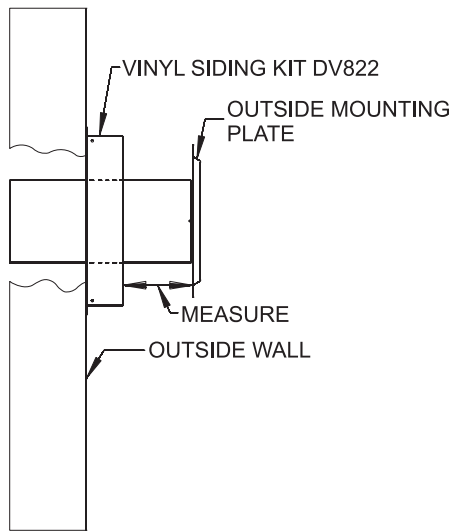

Figure 64
6. With the vinyl siding kit installed to wall (if necessary), insert the 6-5/8 inch diameter tube with outside mounting plate attached through hole in wall. Connect to collar on fireplace or rigid vent system. Measure between wall or vent cap extension and outside mounting plate (**Figures 64 and 65**).